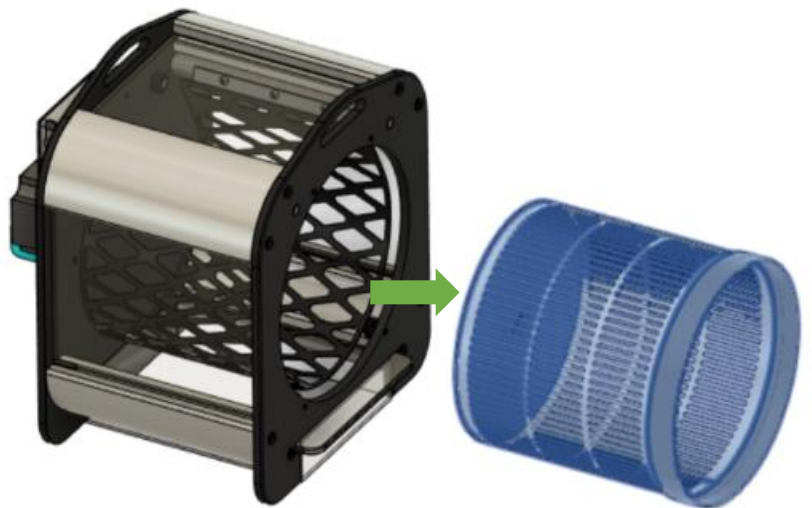

Fig. 16
7. Pull out the tumbler fully, and **gently** place it aside (see Fig. 16).